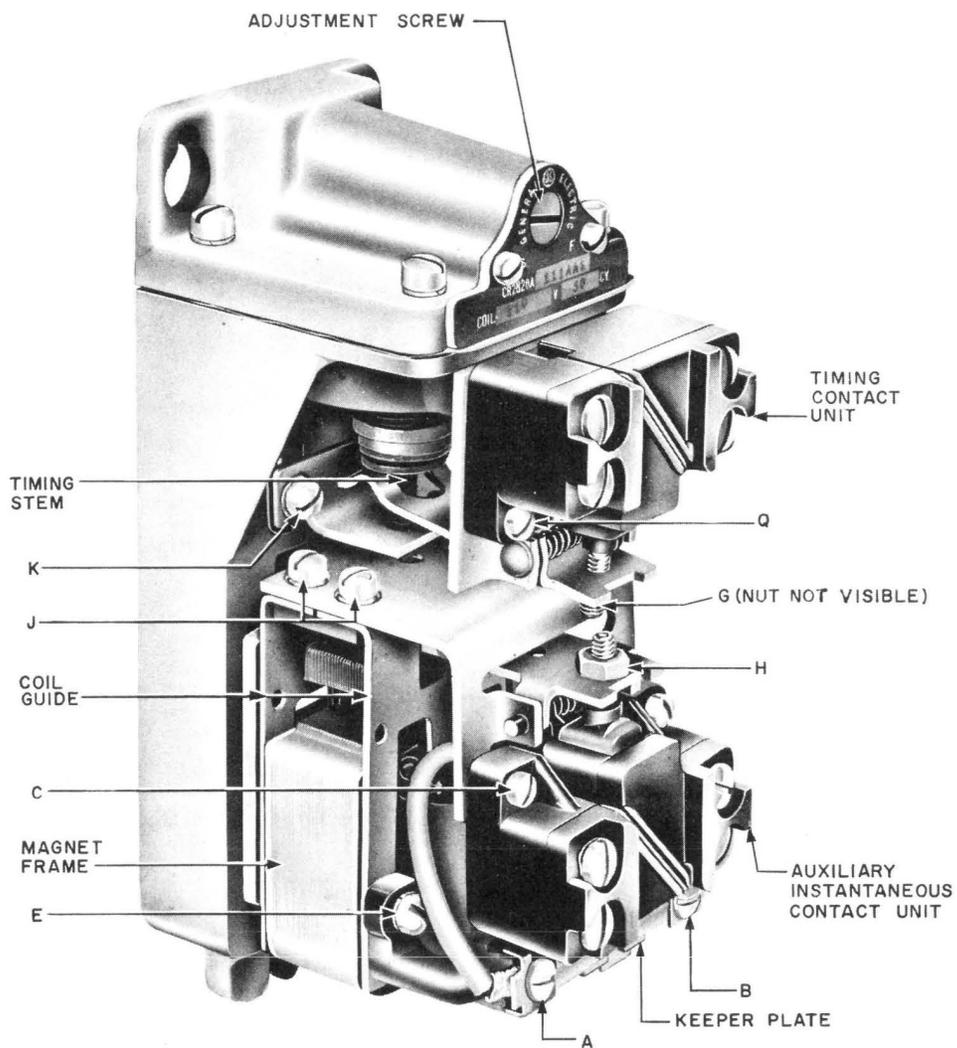

Fig. 13 – CR2820-A111AA Pneumatic Time-Delay Relay
3.03 CR2820-A111AA, -B110AA, and -B111AA Time-Delay Relays (see Fig. 13 and 14)